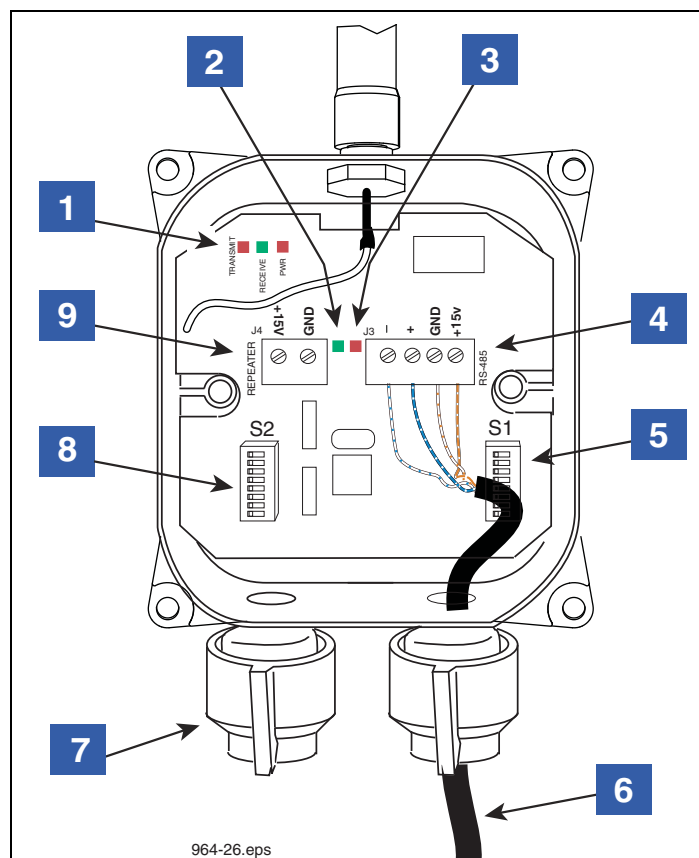

Figure 32. Wiring The Receiver
6. Note that there are two twisted pair color-coded wires in the cable (e.g., a white with blue stripe and blue with white stripe pair and a white with orange strip and orange with white stripe pair). One of the pairs is for RS-485 communication (- & + terminals) and the other pair is for Receiver power (+15 Vdc & Gnd). Using Figure 32 as a guide, attach the wires of the two twisted pairs to the RS-485 terminals.
8. If a Repeater is used and powered by the Receiver, push the two wire power cable (to Repeater) through the +15 Vdc cord grip of the Receiver (item 7 in Figure 32).
10. Attach the dc power cable (white to +15 Vdc and black to GND) to the Repeater terminal block (item 9 in Figure 32).
LEGEND FOR NUMBERED BOXES IN Figure 32
1. Use of a single repeater is optional but may improve system performance when installed correctly. The Repeater should be located closer to the device transmitters to rebroadcast messages to the Receiver. Use the 15 Vdc power source provided in the Receiver to power the Repeater, or use a customer supplied non-interruptible, Class 2, 15 Vdc power source. The most common method of powering the Repeater power is to use the Repeater power terminal block J4 in the Receiver (see item 9 in Figure 32).
9. The other end of the Repeater's dc power cable connects to the Receiver's +15 Vdc output terminal (ref. item 9 in Figure 32), or to a non-interruptible, Class 2, 15 Vdc power source.
| 5. DC Power input cable (from Receiver [item 9 connector - see Figure 32], or dc power source) | |